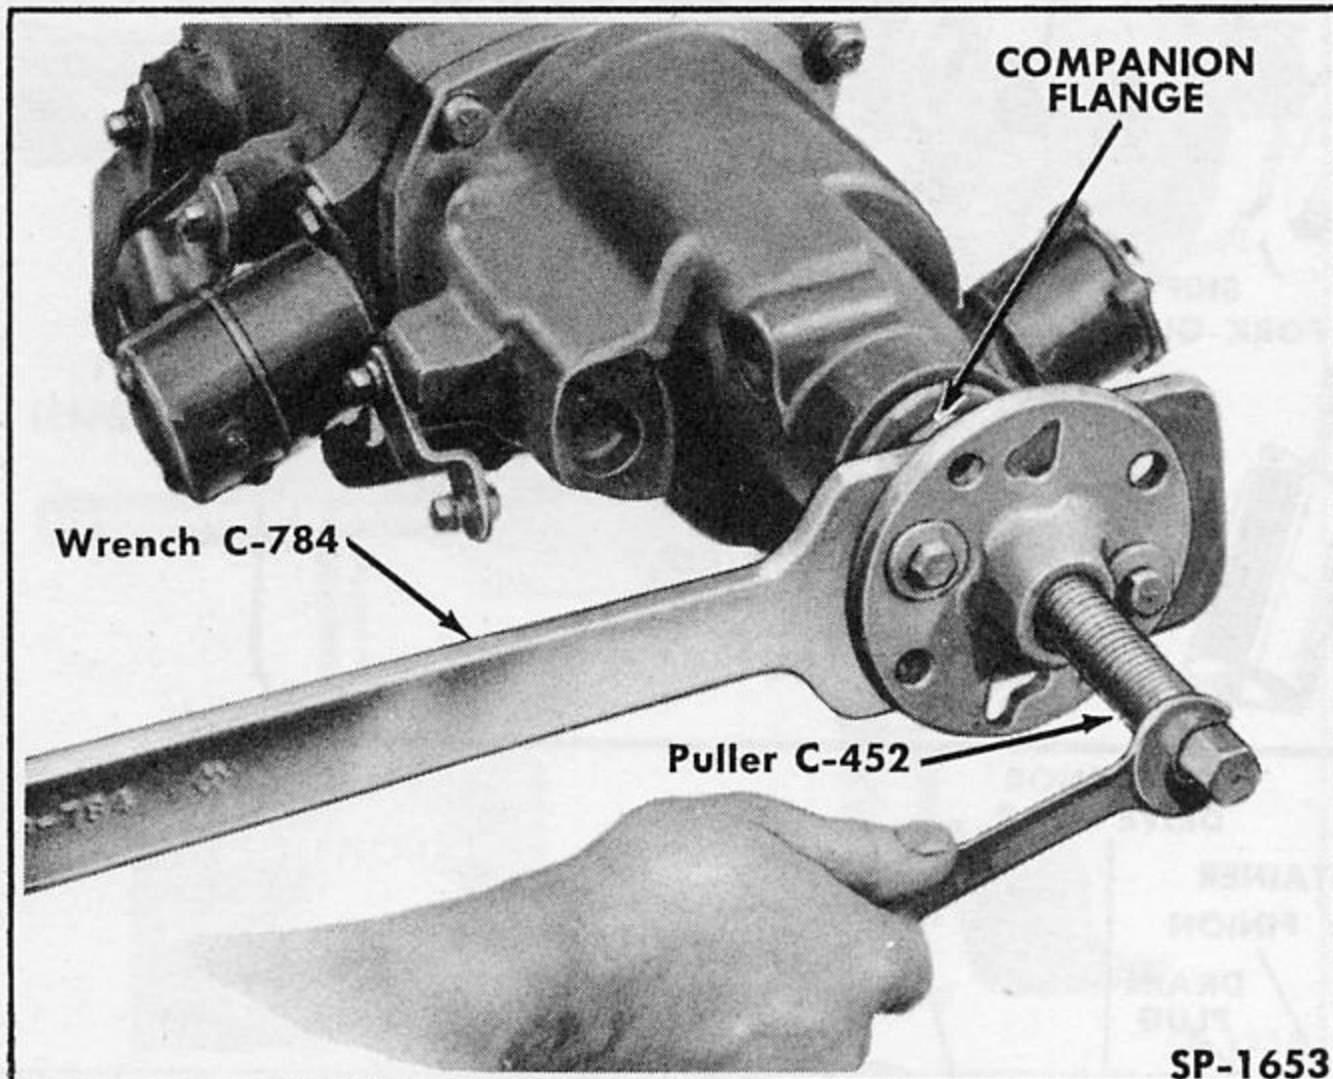

Fig. 145—Removing Companion Flange
2. Remove companion flange nut and washers using Pinion Companion Flange or Yoke Holding Wrench C-784 to hold flange from turning. Remove companion flange from overdrive unit mainshaft using Universal Joint Flange Puller C-452 (Fig. 145).